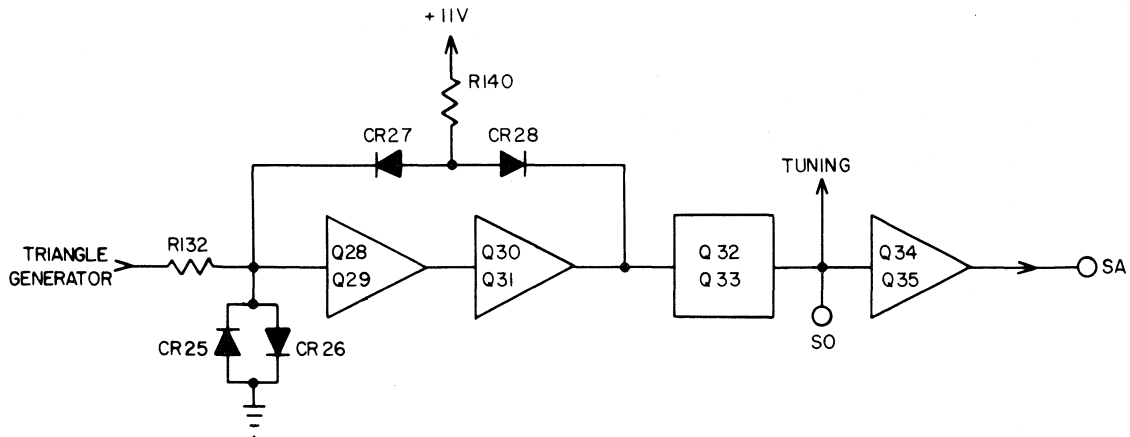

Figure 4. Square Wave Generator
4.3 SQUARE WAVE GENERATOR (See Figure 4)